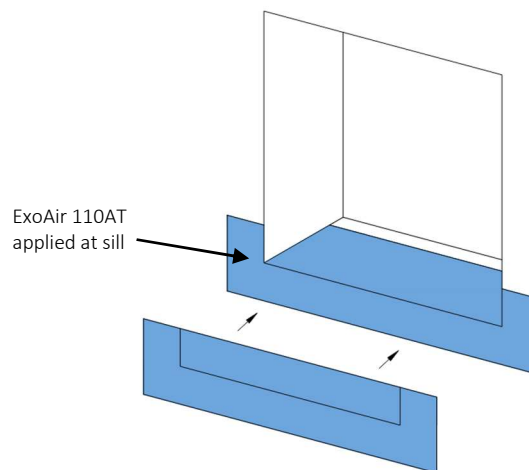

Fig. 14
- c. Install ExoAir 110AT onto the sill 3" minimum into the rough opening and onto exterior wall and extending 3" passed the rough opening on either side. – **Figure 14.**